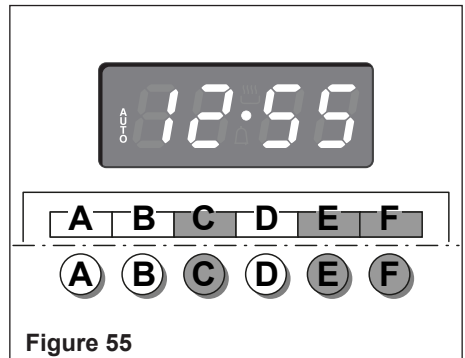

Figure 55
2. Set the end of the cooking time by pressing the “C” button (the cooking time already added to the clock time will appear) and the “F” button (fig. 55); if you pass the desired time you may get back by pushing the “E” button.